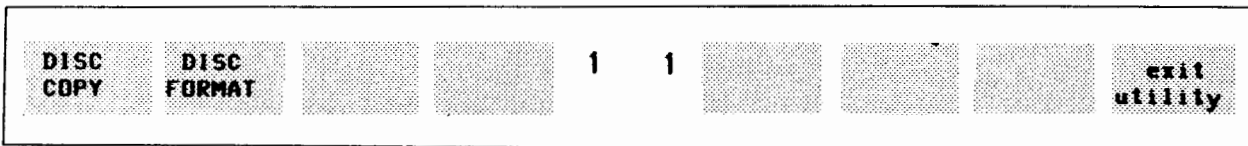

Figure 2-2. Utility Function Key Labels
3. Insert a blank disc into the right disc drive (drive E) then press the utility/125 function key [f1]. A new set of function key labels will appear. See Figure 2-2.